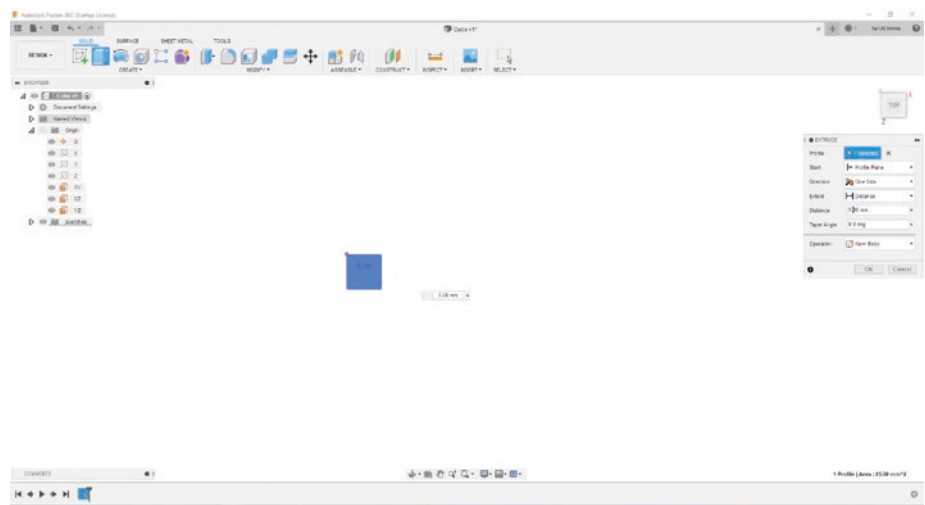

Figure 3-50. *Extrude out 5mm*
2. The “Extrude” function has a lot of options, but for now let’s just move to the distance text box and enter “5” and press enter. See Figure 3-50.